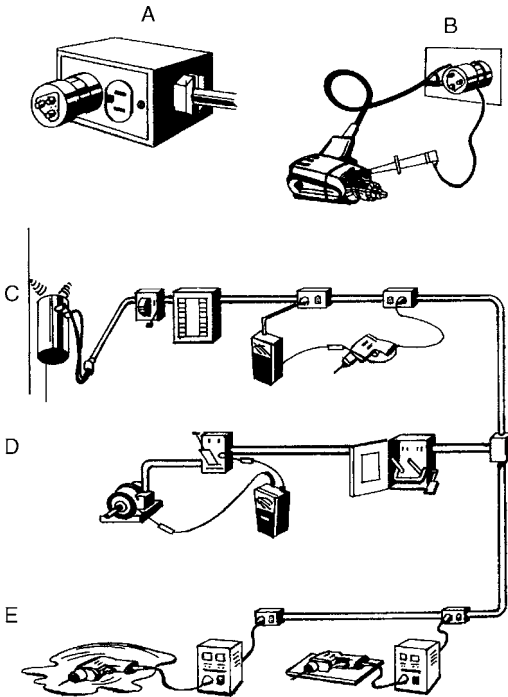

FIGURE 2-4. These devices check the grounding system and thus prevent shock.
Several types of GFCI devices are used to check grounding systems and thus prevent accidental shock. Figure 2-4 shows some of these devices. A, B, C, D, and E indicate the various devices. Some plug-in testers check polarity and grounding (A). Some check the continuity of a ground path (B). This is very important with many